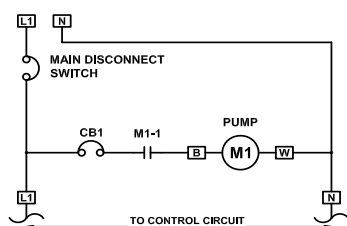

Figure 1
1. Standard Motor Controls Incoming Power Service of 115/120vac - 1 phase. Simplex and Duplex setup (Figure 1). Adder Options Available.